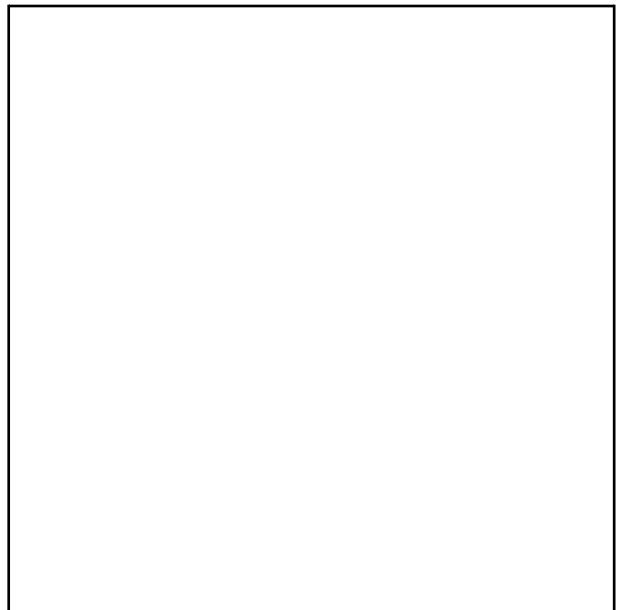

Fig. 2
Remove hose (4, Fig. 2) from screen washer nozzle (3) and remove guard (2).